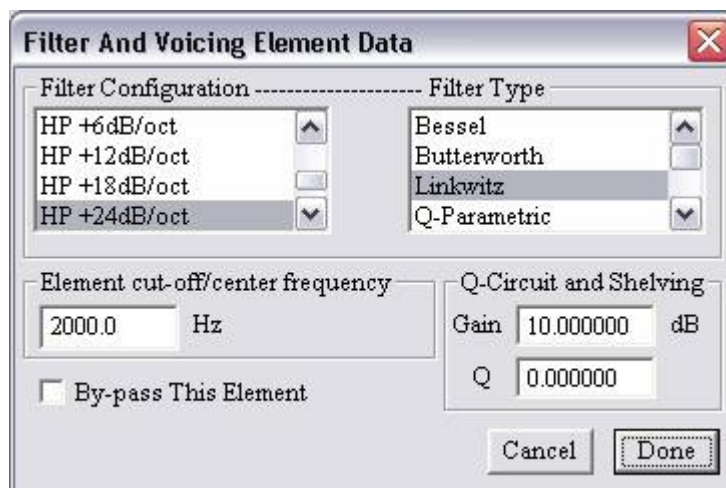

Figure 130. Setting the tweeter high pass target.
- To set up the crossover choose the circuit branch which will be associated with the tweeter, open one of the filter block (right click on the element) and set the filter configuration, filter type and cut off frequency, Figure 130. The click Done. This will set the high pass target for the tweeter. As with the bypassed voicing elements, the filter configuration will be shown on the CAD screen.